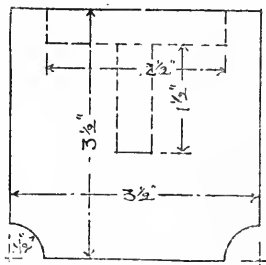

Fig. 3.—Plan of Top Shelf
**A Lamp Bracket.**—A simple but solid lamp-bracket is shown on the next page. It is made wholly of  $\frac{1}{2}$ -in. material, which, naturally, will be a trifle thinner than this when finished. There are four pieces. The long wall piece is 7 in. long and  $2\frac{1}{2}$  in. wide; it will require to be cut a little larger than the dimensions here given to allow of planing up. The top shelf is  $3\frac{1}{2}$  in. square, and its shape is shown in detail in the plan (Fig. 3), while Figs. 1 and 2 are two elevations in which the shelf is shown simply in edge view. The lower shelf should be made originally as a part of the back piece so that it will be exactly the same width. It is 2 in. from back edge to front edge, but  $\frac{1}{4}$  in. of it is housed into the back piece, and its outer corners are rounded off (*see* Fig. 4). The bracket piece under the top shelf will be cut from a piece measuring  $1\frac{1}{2}$  in. by  $2\frac{1}{2}$  in., and the method of striking the curve to which it requires to be cut is given in Fig. 2, where D is the centre for the compasses.